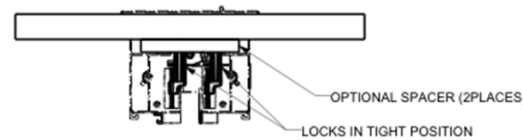

FIG. 7 Optional spacer and mounting tabs deployed
**Note:** For surfaces less than 3/4" (19mm) thick, use the supplied plastic spacers by fixing them to each end of the cutout using the supplied double sided tape (FIG. 7).